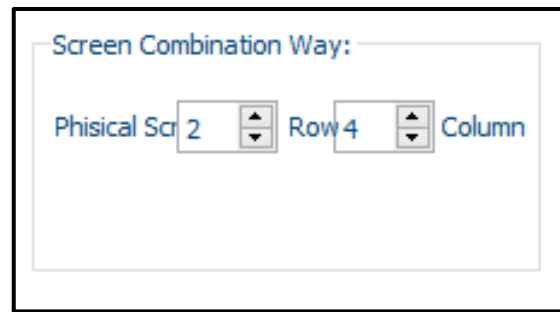

Figure 18: Settings of rows and Columns
- Using the Screen Combination Way section on the right hand side of the window you can then set your combination of screens by selecting the number of rows and columns you have present. Figures 18 & 19 show an example for setting a wall to have 2 rows and 4 columns